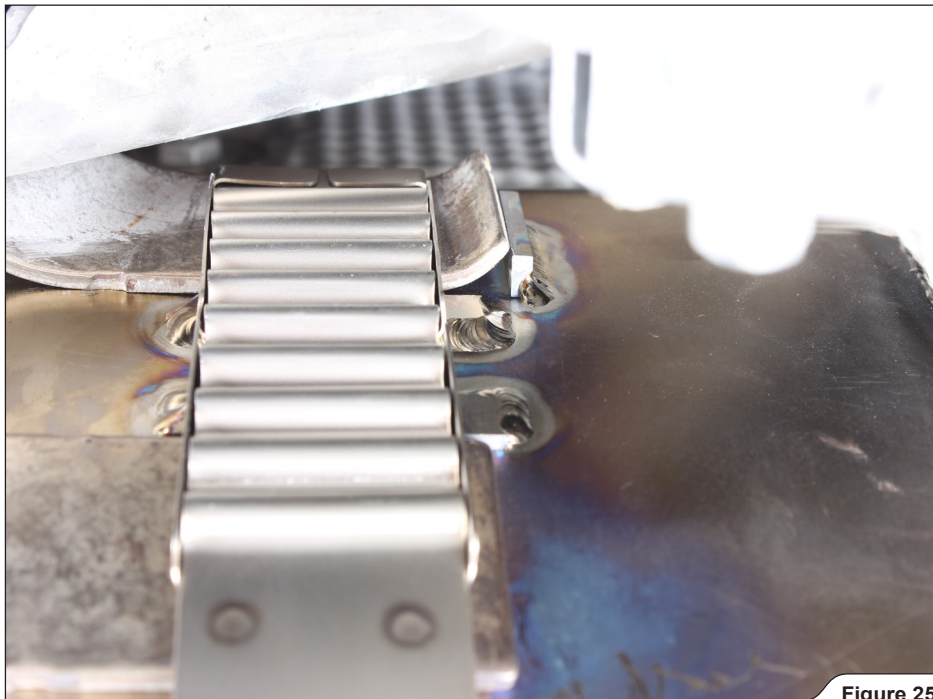

Figure 25
3. Align and center the muffler, so the muffler brackets align with muffler's position restrictors; attach the muffler's tape clamps over the brackets, as shown (Figure 25, 26).